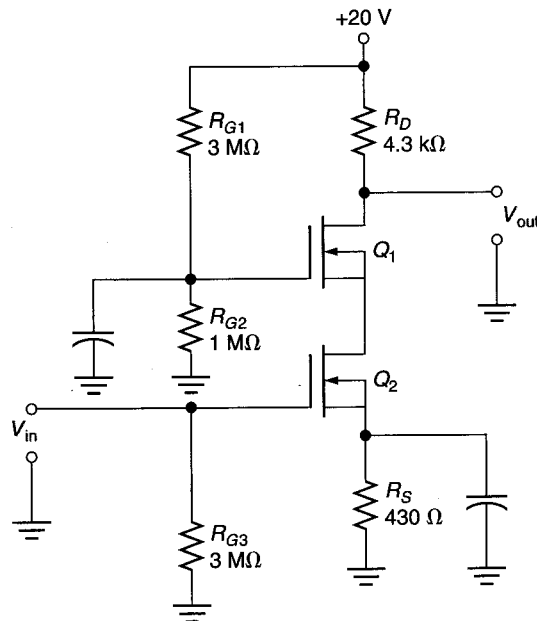
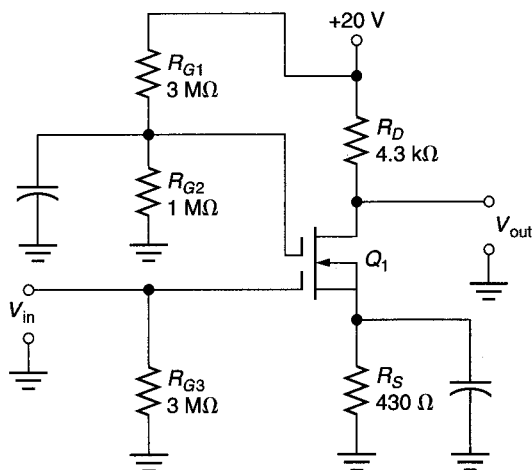

FIGURE 13.25 Cascode amplifier.
FIGURE 13.26 Dual-gate MOSFET cascode amplifier.
Both JFETs and MOSFETs have relatively high input capacitances, as stated earlier. These input capacitances can adversely affect the high-frequency operation of the components. To overcome the effects of high input capacitance, the **cascode amplifier** was developed. The cascode amplifier consists of a common-source amplifier in series with a common-gate amplifier, as shown in Figure 13.25.
$Q_1$  in Figure 13.25 is a common-gate amplifier that is voltage-divider biased.  $Q_2$  is the common-source circuit and is self-biased. The input to the circuit is applied to  $Q_2$ , and the output is taken from the drain of  $Q_1$ . Therefore, the two MOSFETs are in series.
A simple cascode amplifier can be constructed using a dual-gate MOSFET. The dual-gate MOSFET equivalent of Figure 13.25 is shown in Figure 13.26. Gate 1 of the MOSFET is connected to act as a common-gate amplifier, while gate 2 is connected to act as the common-source amplifier. This amplifier has the same capacitance characteristics and high-frequency capabilities as those of the amplifier in Figure 13.25.
- a. A cascode amplifier has a common-source circuit directly wired to a common-gate circuit (see Figure 13.25).
- c. A dual-gate MOSFET can be wired as a cascode amplifier (see Figure 13.26).